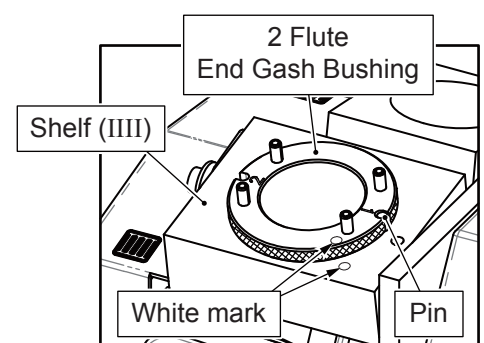

Fig. 5-11
3) End Gash Grinding Shelf (IIII) (Fig. 5-11)